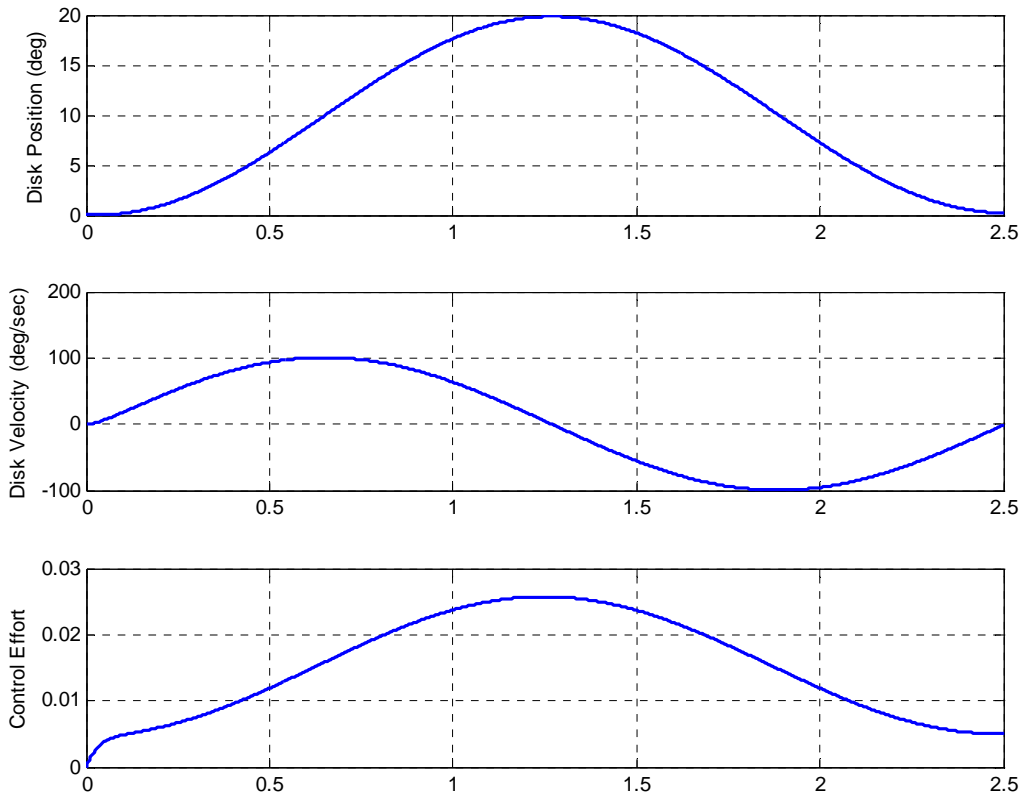

Figure 3. Integral control of a 1 dof system with bad data (problem 1d)
d) At this point there is no real reason for us to use integral control, since we know everything exactly. Let's assume your lab partner is way off on the system model. In your code, just before you run the simulation (just before the `sim` command), type `A = A*0.25`, which basically says you're a matrix is way off. If you make this change just before the simulation, your gains will be chosen assuming your model is correct, and we will be running the simulation using a different system. Change the final time to 2.5 seconds, and leave everything else the same as before. You should get results like those shown in Figure 3, which look pretty hopeless, but we can improve them.